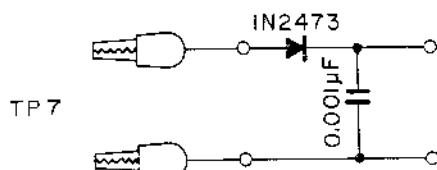

Fig. 7-4
- * When it is difficult to observe maximum point of the waveform, use the following rectifier circuit as shown in Fig. 7-4.